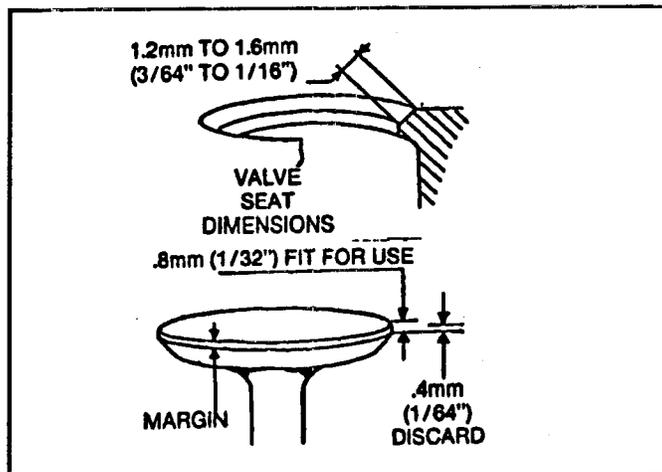

Figure 60
2. The lapped valve seat width should be $3/64 - 1/16$ " (1.2 - 1.6 mm). If the seat is wider than this dimension a narrowing stone or cutter should be used to bring the dimension into specification. See Figure 60.
3. The valve margin should be at least $1/64$ " (.4 mm) after regrinding to 45 degrees. Replace the valve if the margin is less than the specification after regrinding. Refer to Figure 60.